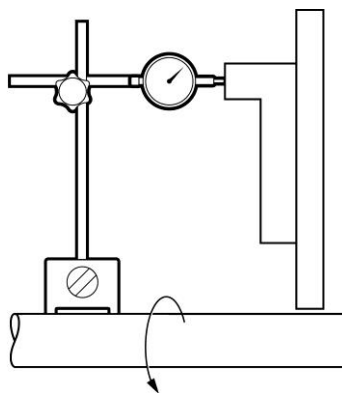

Figure 3
3.5 Perpendicularity of Mounting Bracket: With the dial indicator mounted to the shaft, place the indicator tip on the face of the mounting bracket/surface and rotate the shaft. The T.I.R. (Total Indicated Reading) should be within value shown in **Table 1**. See **Figure 3** below.